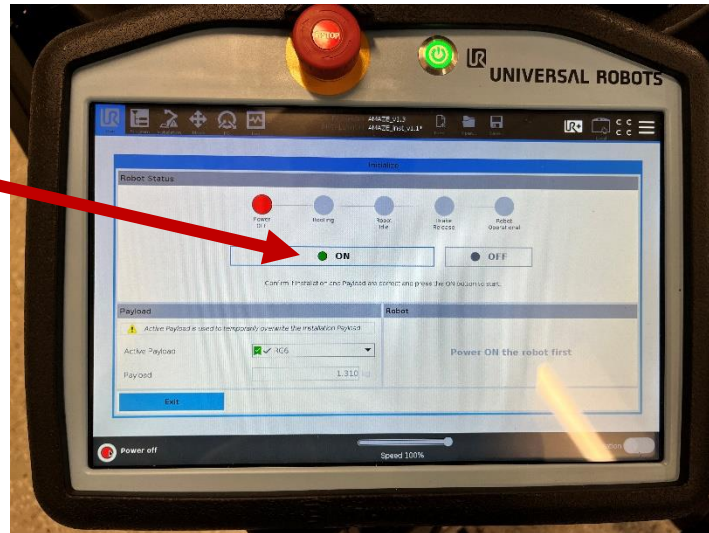

Figure 16. Turning On Robot
c. Press the ON button, as shown in Figure 16.